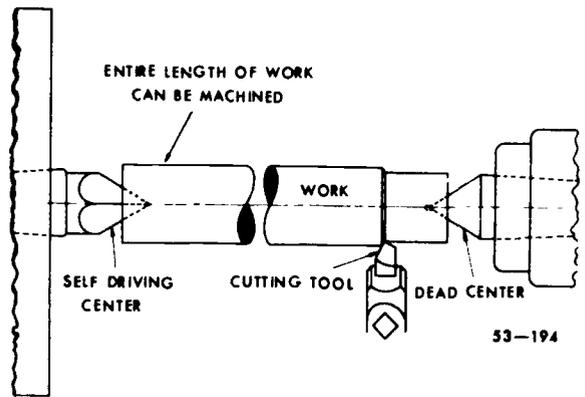

Figure 59. Supporting work with a self-driving control.
f. *Self-driving centers* have a point in the shape of a pyramid; they are friction-driven and friction retained. When a center is inserted in the headstock spindle, it supports and drives work on which a full-length cut is required, as shown in figure 59. The material to be machined should be relatively soft so that the center may be easily pressed into one end of the workpiece. Work that is supported between centers in this manner is not as rigid as work that is supported between male or female centers; therefore, only light cuts should be taken.